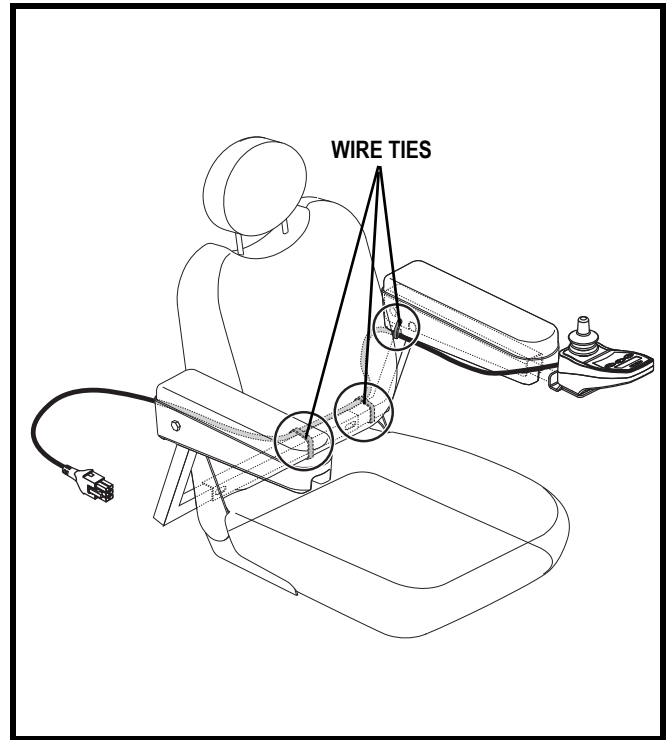

Figure 13. Controller Routed on a Contour Seat
- Secure the controller harness to the armrest receiver with wire ties. See figure 13.